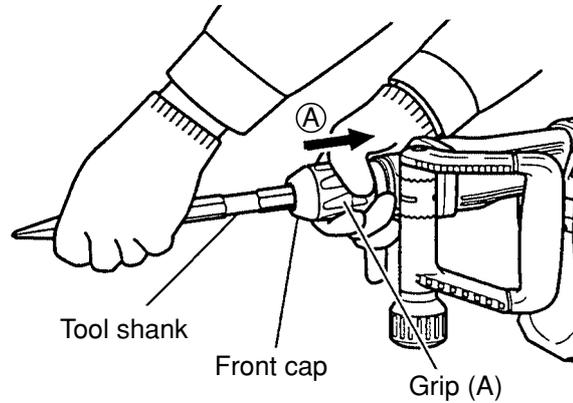

Fig. 9
The Model H 45SR is equipped with a slide-type tool retainer. Tools can be attached and detached just by pulling grip (A). While pulling grip (A) in (A) direction, insert the tool in the hole of the front cap (Fig. 9). Adjust the hexagonal shank position by turning the tool and push it in to the end. Lock the tool by returning grip (A) back to the original position.